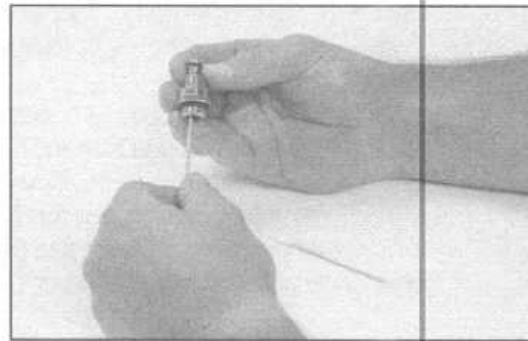

FIG 6-5
11. Inspect the adjustment tube for cracking, wear or chemical attack. Remove and inspect the adjustment tube o-ring (26) for any signs of decay. **RECORD FOR REPLACEMENT** if found.
12. Before removing the inlet coupler (10), depress and hold the demand lever (17) to keep the sharp sealing edge of the adjustment orifice (11) from cutting the poppet seat (8) as the inlet coupler is removed in a counter-clockwise direction using a 3/4" open end wrench.
13. Using a genuine TUSA in-line adjustment tool, remove the adjustment orifice (11) by turning it inside the coupler in a counter-clockwise direction. When it has moved completely beyond the threads, it may be necessary to press it out of the inlet coupler with a cotton swab, being careful not to damage its sharp sealing edge. Refer to figure 6-5.